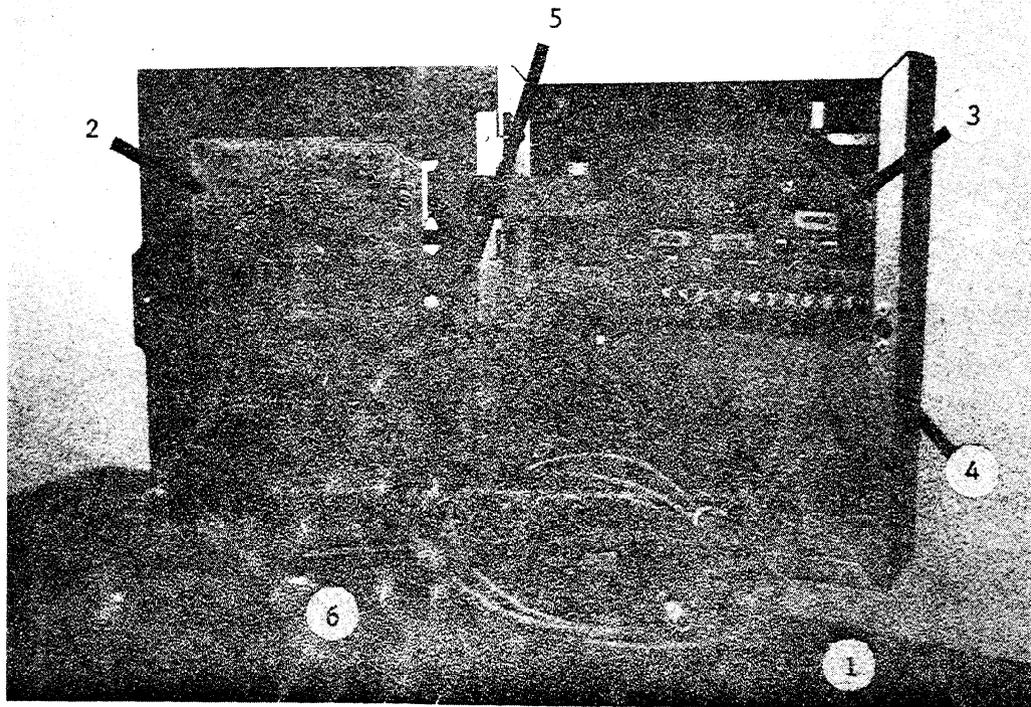
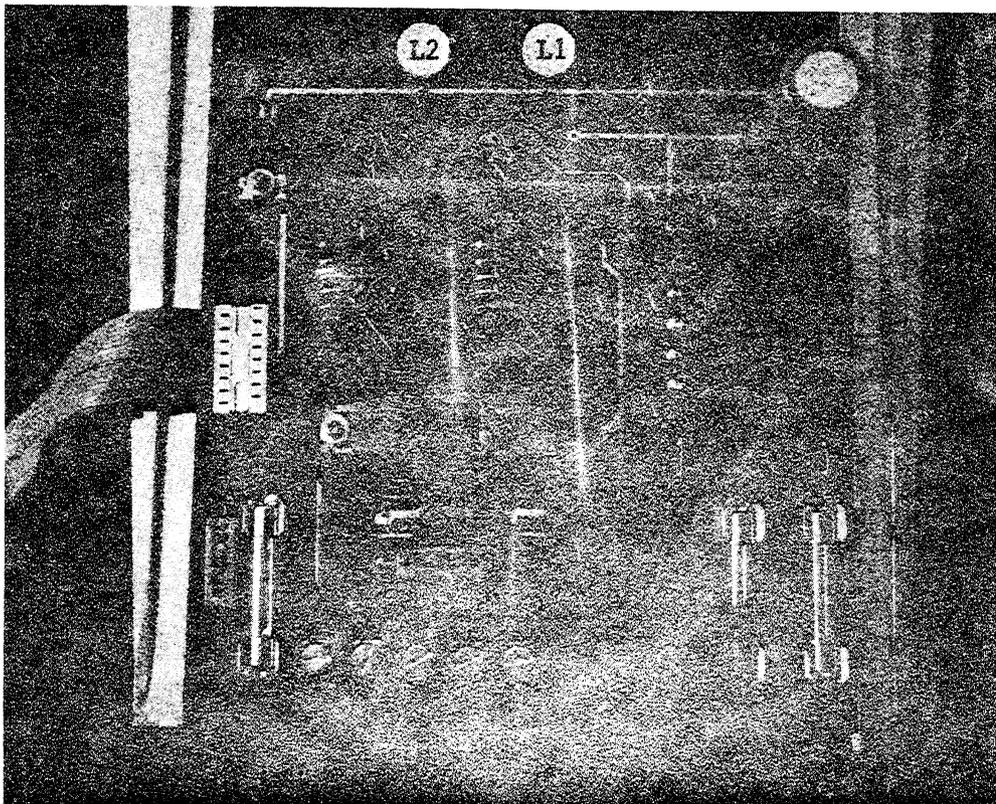
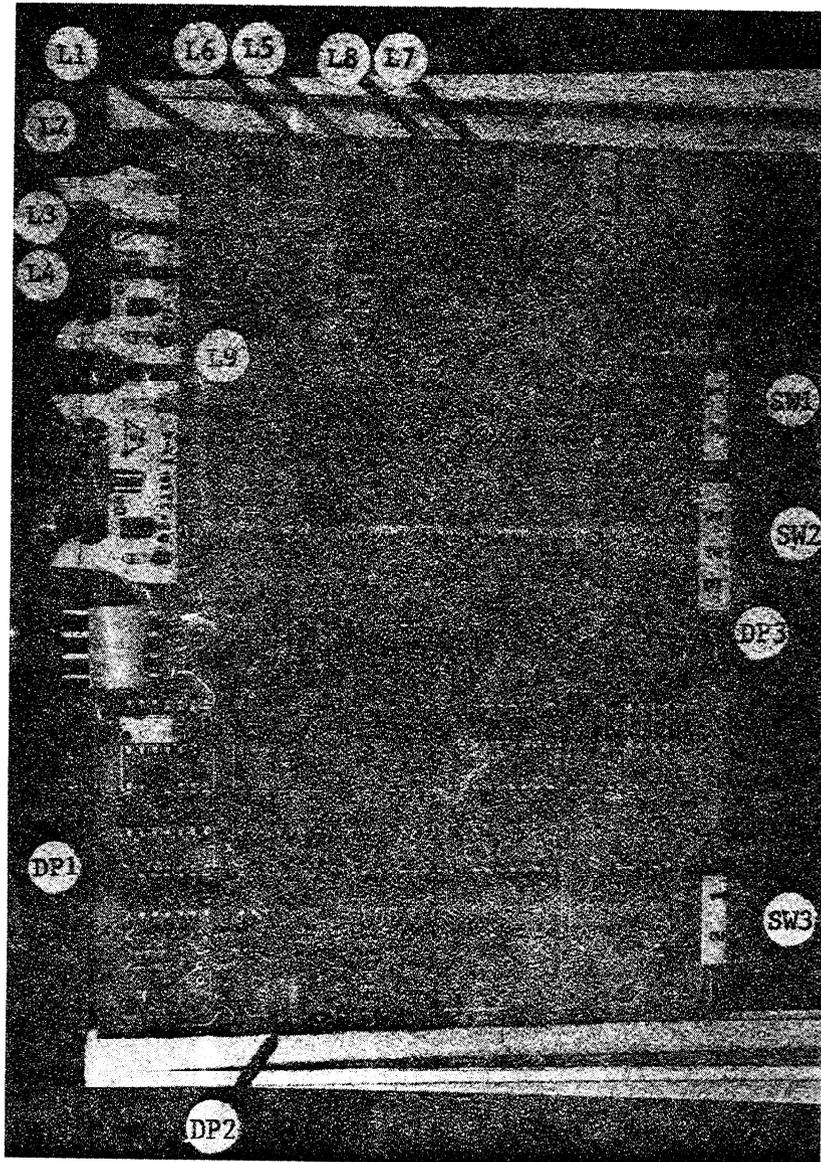
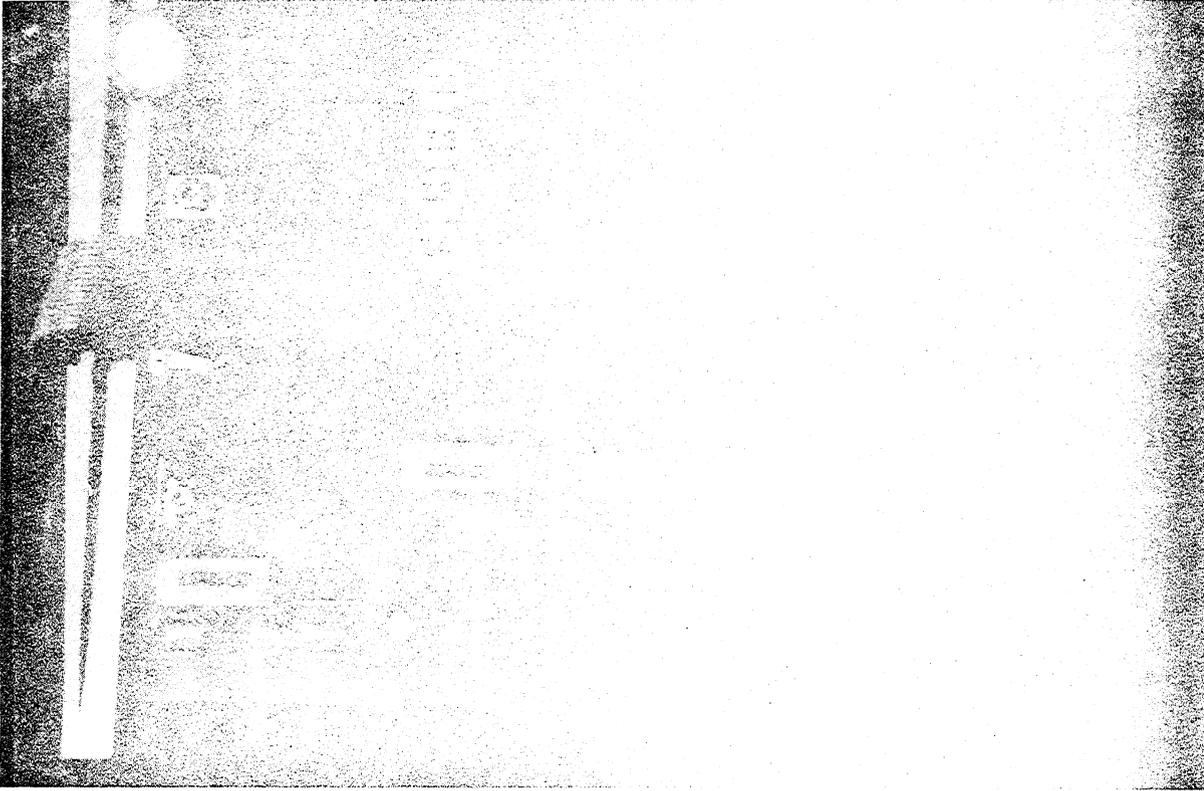

FIGURE 1
FIGURE 3
FIGURE 4
FIGURE 3
A typical SSPC is shown in Figure 1. It consists of: 1-A remote pressure transducer, 2-A CPU board, 3-An I/O board, and 4-An enclosure with a pop open hinged door.
Consists of the same components shown in Figure 1 except the I/O board (Item 3) is not as large. The I/O 2 board is shown in Figure 3. The face side of the CPU board (Figure 4) will have a plug in location DP3 with "2 comp" printed right side up. Note that the same CPU board is used for all 3 basic units, consequently, the light emitting diodes L1, L2, L3 and L4 representing compressors 1,2,3, and 4 respectively will be physically in place on a SSPC-2 even though L3 and L4 should never light. The legend on the cover of an SSPC 2 may even have L3 and L4 identified as compressors 3 and 4. Again check the plug in location DP-3 to determine which type of program is in the control board.
Consists of basically the same components as shown in Figure 1 except the I/O 4 board shown (also see Figure 5) may be an I/O 3 board. The I/O 3 board will be physically the same size as the I/O 4 board but will have fewer components and will not have terminals 11 and 12. The component side of the CPU board (see Figure 4) will have a plug in location DP-3 with "3 Comp" printed right side up. The same conditions apply to L4 on the CPU board (Figure 4) on a SSPC-3 as applied to LED 3 and 4 on a SSPC-2.
Consists of the components shown in Figure 3. The board (see Figure 4) will have a plug in the center of the board printed right side up.
- (3.) Whenever the fast timing switch SW3 on the CPU board (See Figure 4) is in position "2".
The standard SSPC has a 3 digit LED display which can display the following with the different positions of SW2 on the CPU board (Figure 4).
CPU board is also equipped with 9 LED status lights (see Figure 4). As described previously, Lights L1-L4 indicate which compressors the SSPC has turned on. The other indicator lights indicate the following:
The I/O Boards also have indicator lights, one for each compressor (See Figs. 3 and 5. These lights should correspond to the compressor indicator lights on the CPU board (Figure 4 L1-4).
SW1 on the CPU board (see Figure 4) allows a serviceman to override the SSPC's control of the compressors and turn all compressors on. Position "1" is for normal operation. Position "2" is for SSPC override.
- (2.) The override switch on the CPU board (labeled SW1 on Figure 4) should be in the "1" position (up) for normal operation.
- (3.) The display select switch on the CPU board (labelled SW2 on Figure 4) should be in the "2" position (middle).
- (4.) The fast timing switch on the CPU board (labeled SW3 on Figure 4) should be in the "1" position. The "1" position is the standard timing mode.
Now locate the cut in pressure potentiometer (it is an 18 turn device labeled Cut In on Figure 4). Using a small flat screw driver adjust the potentiometer until the display pressure corresponds to the desired cut in pressure setting.
The cut out point can be set by first observing the displayed cut in pressure setting (SW2 in "2" position) then switching SW2 to "3" position. The cut out setting is now displayed. Subtract the cut in from the cut out to determine the differential. The differential can be changed by adjusting the 18 turn potentiometer on the CPU board labeled Cut Out (See Figure 4) until properly set.